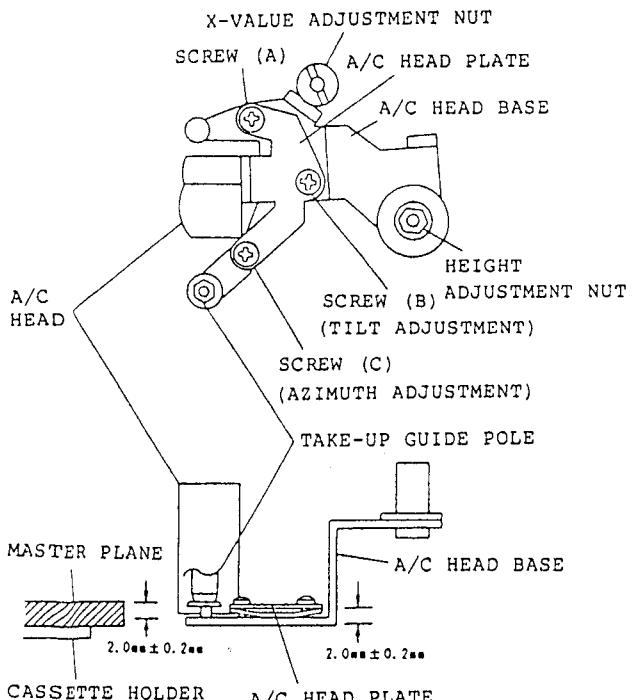

Fig. 3-12
(Figs. 3-12, 3-13, 3-14, 3-15)
- 2) Adjust the height adjustment nut so that the top of the master plane is  $2.0 \pm 0.2$  mm higher than the A/C head base. (See Fig. 3-12)
- 3) Adjust screws (A), (B) and (C) so that there is  $2.0 \pm 0.2$  mm between the bottom edges of the A/C head plate and A/C head base, and the A/C head is at right angles to the A/C head base.
- 6) Adjust screws (A), (B) and (C) so that the audio output is maximum and flat (without fluctuations). (See Figs. 3-12, 3-13)